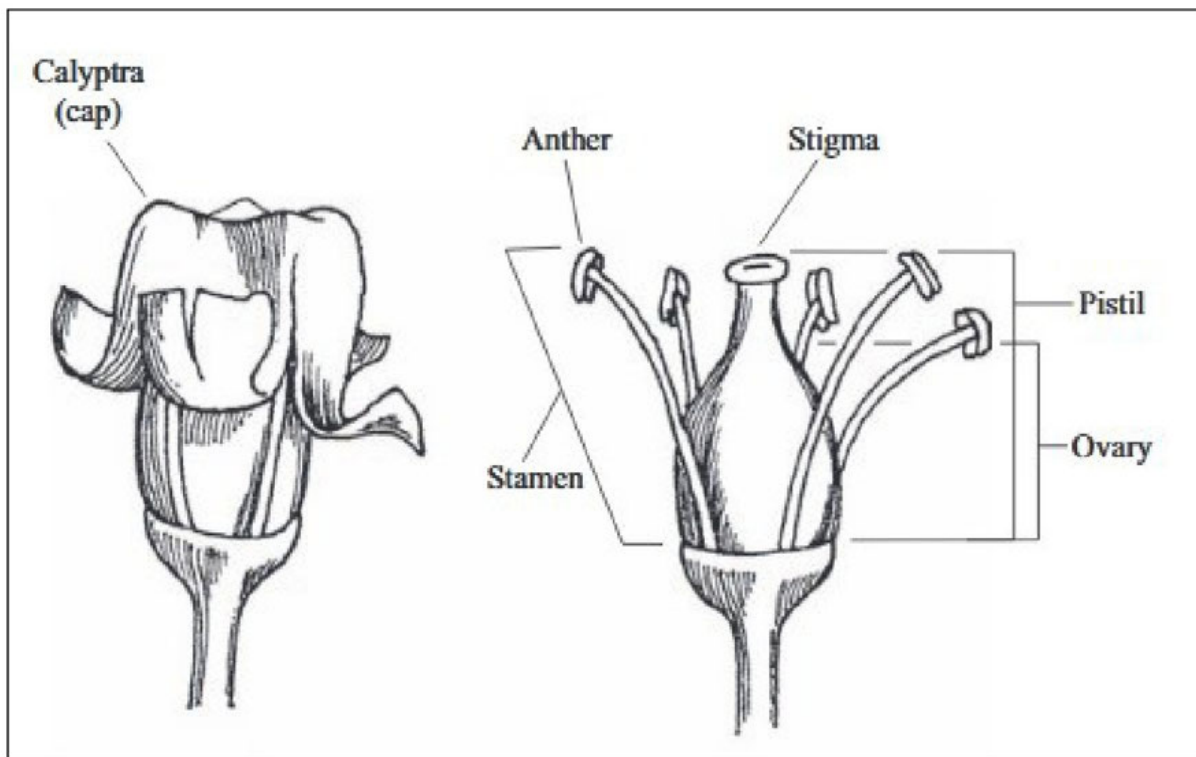

Figure 16 – Basic grapevine physiology
Figure 16 illustrates the basic grapevine physiology. (2) According to author E. Hellman in Oregon Viticulture, a flower cluster will contain many, individual flowers. These flowers are covered by a cap-like structure called the calyptra. This cap structure encloses the reproductive organs and other tissues within the flower. A flower consists of a single female organ called the pistil and five stamens, each tipped with a male organ called an anther. At the base of the pistil is the ovary which consists of two internal compartments, each having two ovules containing an embryo sac with a single egg. The surface of the ovary contains stigmas. The stigmas are a landing spot for the pollen grains produced by the anthers. The pollen grains land on the stigmas and proceed to penetrate the ovary. The time during which pollination occurs is called bloom (also anthesis) and can last from one to three weeks depending on weather. Viticulturists refer to full bloom as the stage at which roughly one-half to two-thirds of the caps have loosened